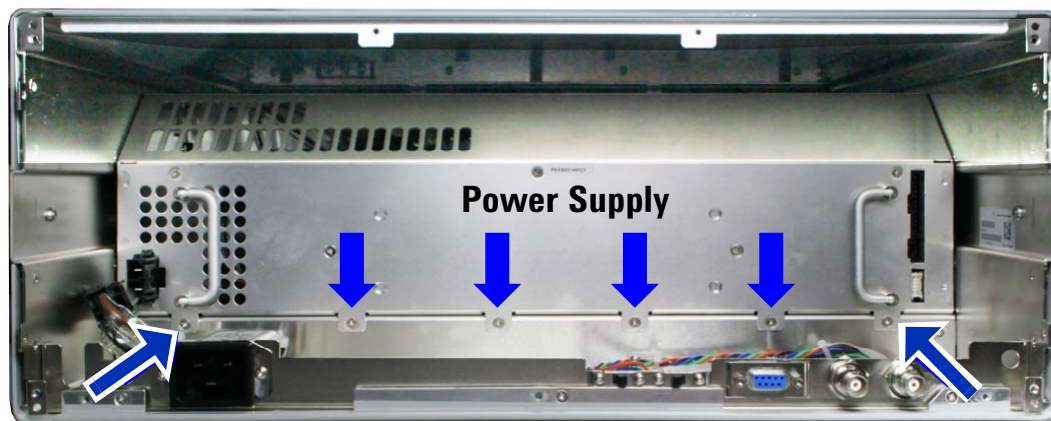

Figure 92 Remove the six highlighted power supply screws
- 9 The power supply is held in place by the six screws shown in Figure 92. Remove these screws. At this point, the power supply should be ready to be removed from the chassis – verify that all connectors and all screws have been removed from the power supply.
- 3** Insert the six screws shown in Figure 92 and tighten securely.